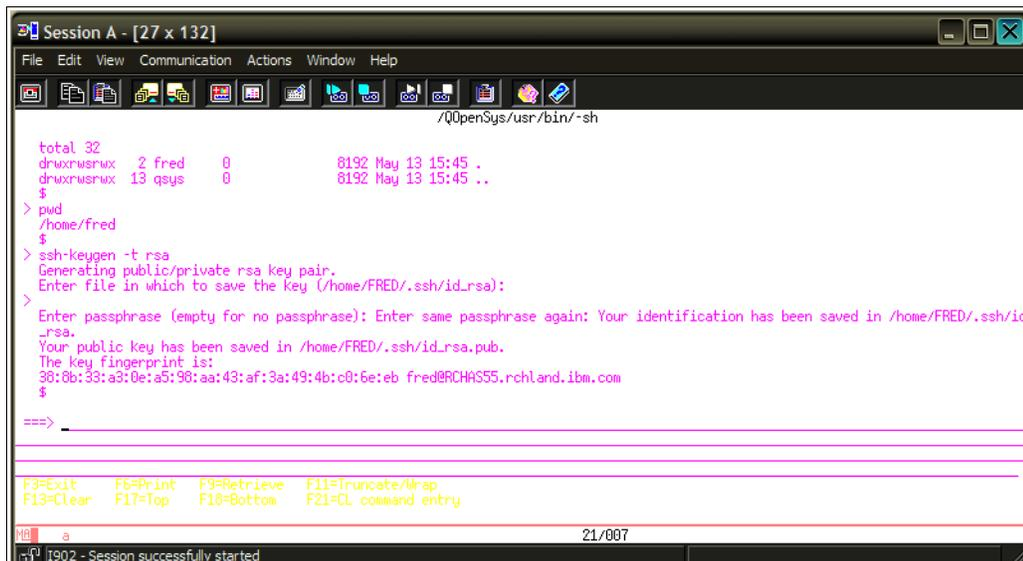

Figure 11-9 SSH-Key generation
- ▶ Generate the `ssh` key (Figure 11-9) by using the command `ssh-keygen`.